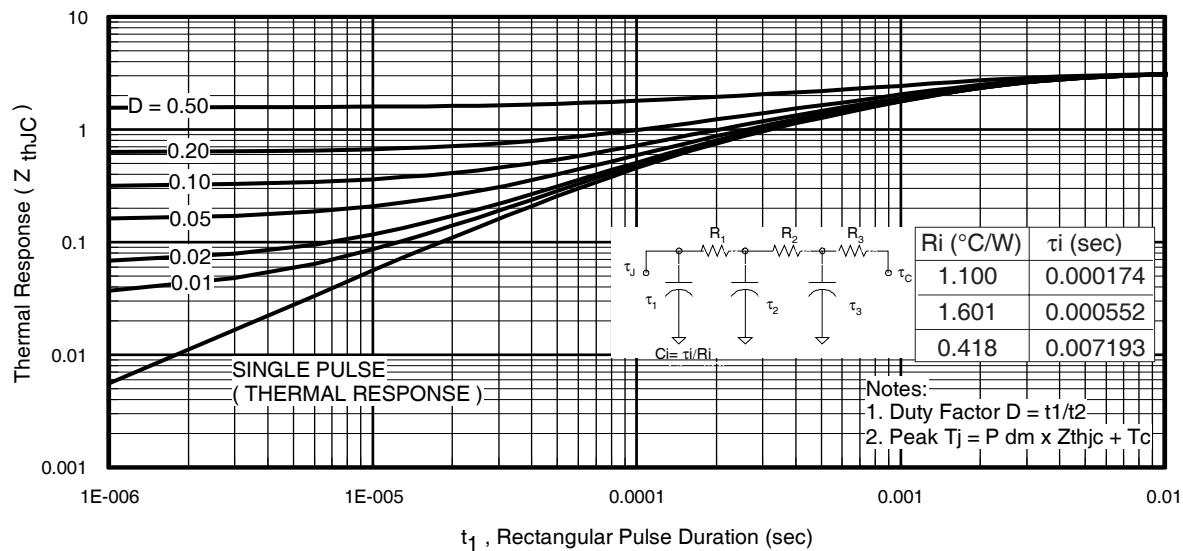

Fig 11. Maximum Effective Transient Thermal Impedance, Junction-to-Case
- Z_{thJC}(D, t_{av}) = Transient thermal resistance, see figure 11)